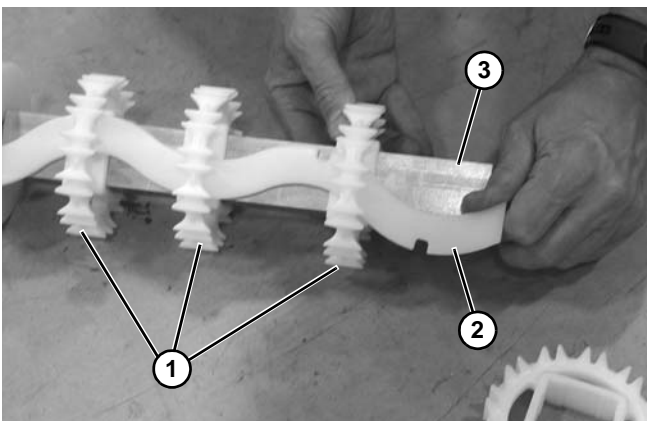

Figure 59
- Remove remaining sprockets (**Figure 59, item 1**) off the alignment key (**Figure 59, item 2**) while sliding the entire assembly off the drive spindle (**Figure 59, item 3**).